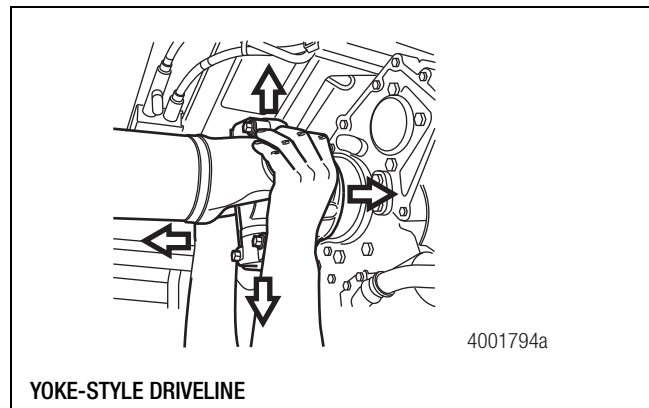
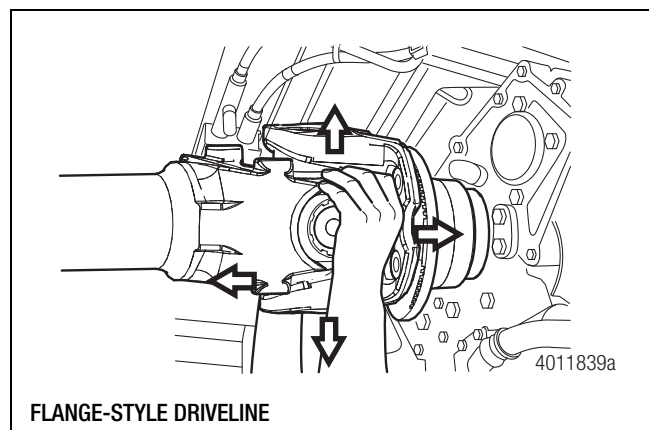

Figure 12.2
Figure 12.3
- B. Try to move the yoke or flange UP-AND-DOWN and SIDE-TO-SIDE by applying at least 50 pounds (22.7 kg) of force to the driveline near the universal joints. Figure 12.2 and Figure 12.3.